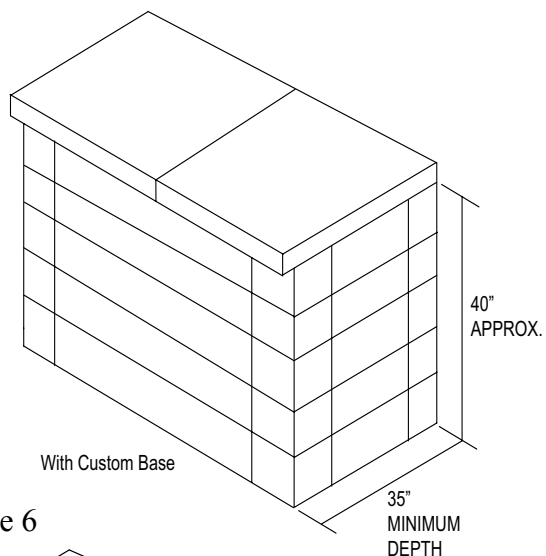

Figure 6
**Note:** If the ISO'ven base is not required, client should build a base approximately 40 inches high and a depth of no less than 35" to set the table top ISO'ven on. (Figure 6)